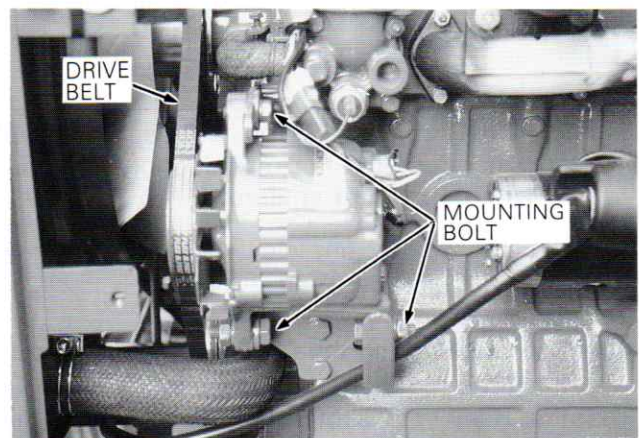

Figure 48 — Alternator Mounting Bolts
1. Loosen the alternator mounting bolts, Figure 48.